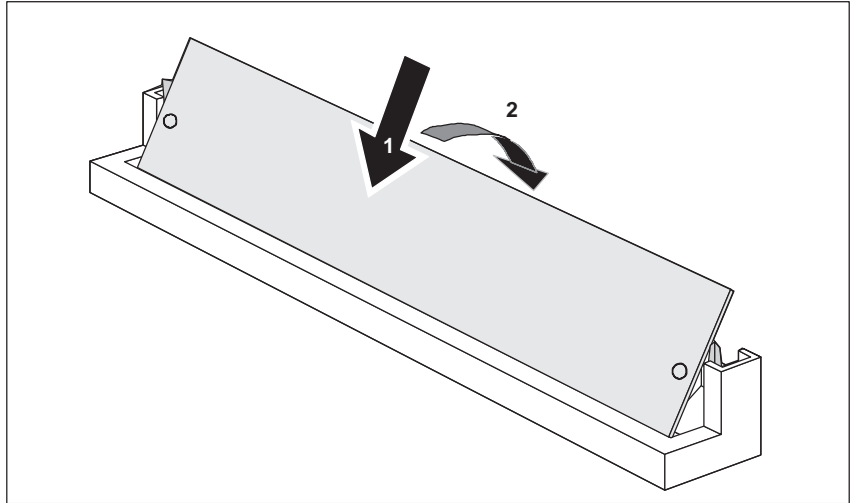

Figure 2-2 Install memory card
7. Make sure that the cards are correctly plugged in as shown in figure 2-2.